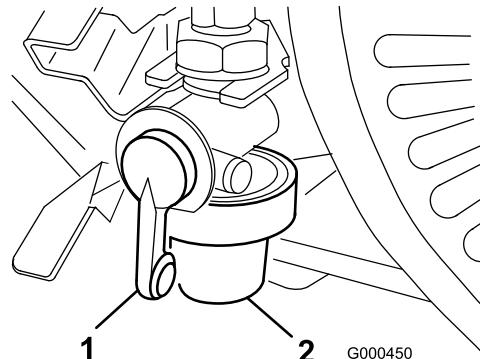

Figure 28
1. Close fuel shut off valve and unscrew bowl from filter body (Figure 28).